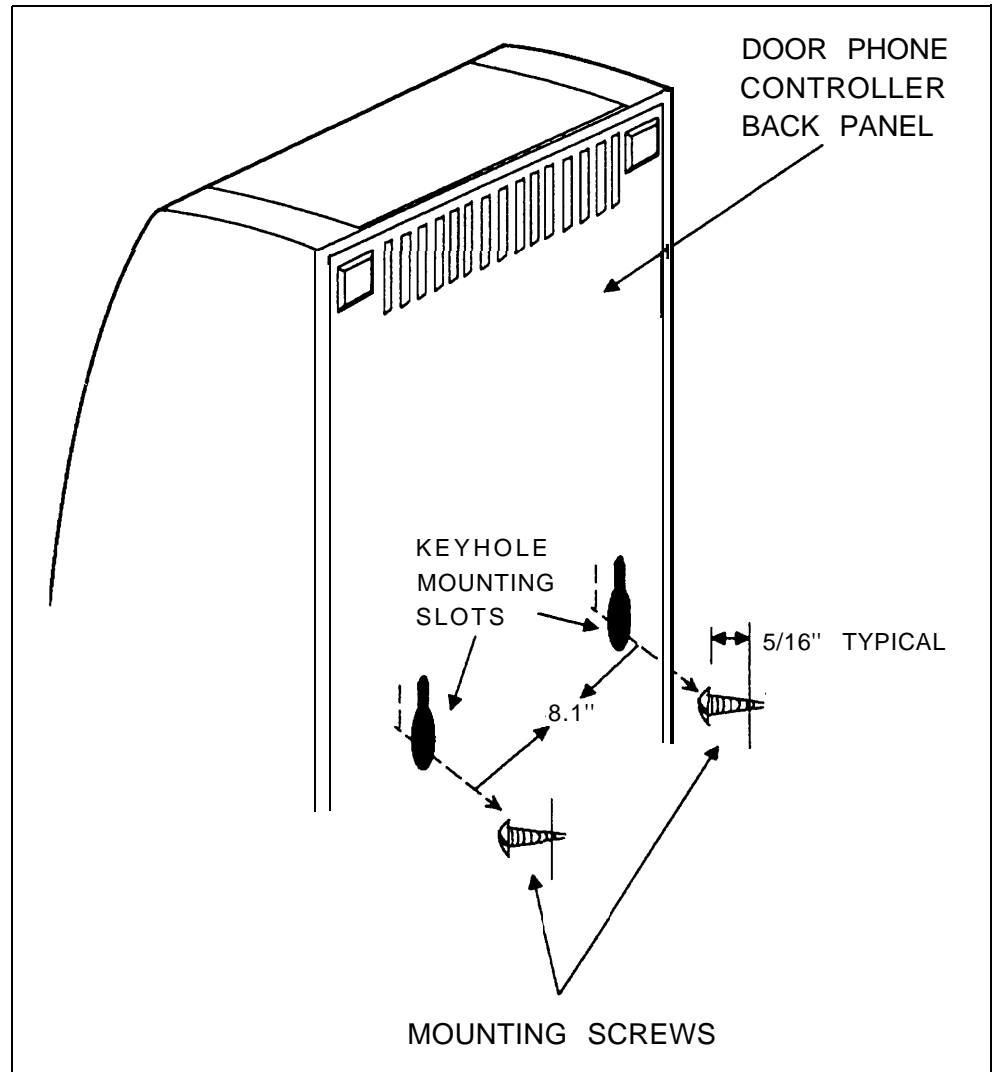

Figure 2-3. Mounting AT&T Door Phone Controller to Wall
3. Mount the AT&T Door Phone Controller over the protruding screw heads and seat unit firmly to the wall. See Figure 2-3.